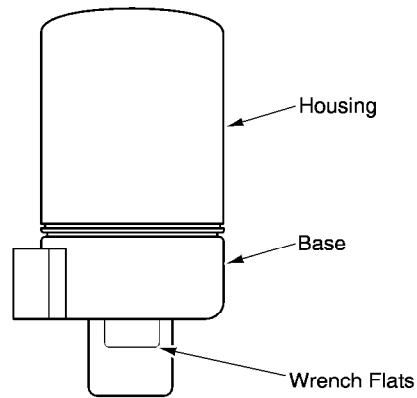

Figure-3 Housing and Base Location.
**Caution:** Do not twist or exert any force on the actuator housing during installation. Either turn the base by hand or, if necessary, use a 1-5/8" open-ended wrench (TOOL-37) on the flats provided on the actuator base or the valve body mounting nut. Refer to Figure-3.
**Caution:** Do not twist or exert any force on the actuator housing during installation. Either turn the base by hand or, if necessary, use a 1-5/8" open-ended wrench (TOOL-37) on the flats provided on the actuator base, or on the valve body mounting nut. (Refer to Figure-3)